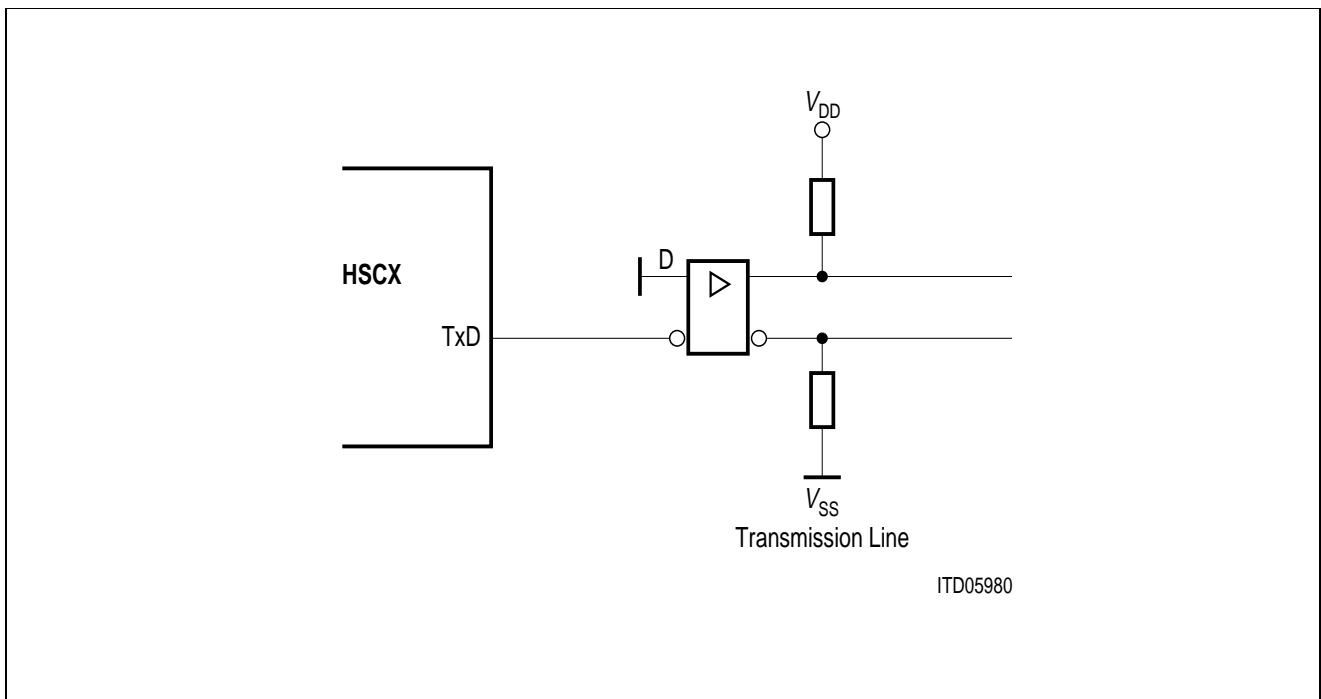

Figure 25
- a) Do not use the $\overline{\text{RTS}}$ signal directly in clock mode 5 e.g. to enable drivers for TxD in a balanced bus configuration. Instead, use an arrangement of the type shown in the **figure 25** or